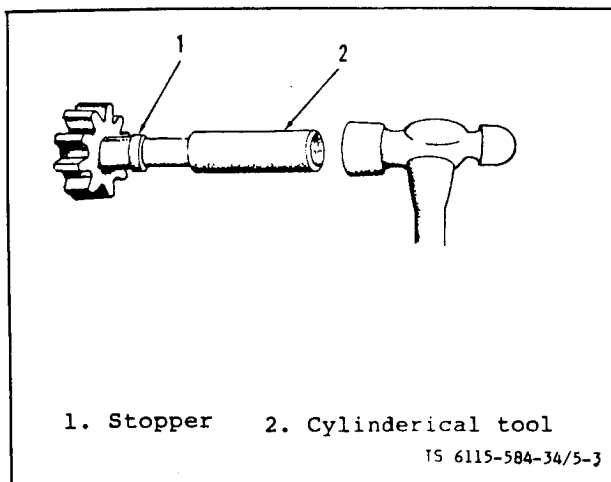

Figure 5-3. Pinion Gear Stopper Removal
(1) Remove nut (1) and lockwasher (2) from solenoid (13). Remove nut (3) and lockwasher (4) from brush assembly (21) terminal. Tag and remove lead (5). Remove nut (6) and lockwasher (7) from lower solenoid terminal, and loosen field coil connector (8).
(2) Remove cotter pin (9) and pin (10) from yoke (32). Remove screws (11), lockwashers (12) and remove solenoid switch (13).
(3) Remove through bolts (14), lockwasher (15) and remove back plate assembly (16) and thrust washer (27). Remove nut (17) and lockwasher (18) from brush assembly (21) terminal. Lift brush springs (20) and remove brush assembly (21). Remove the insulating washer set (19) from brush assembly (21). With brush spring raised, remove other brushes (26) from brush holder (24). Remove screws (22), lockwashers (23) and remove brush holder (24).
(4) Remove retainer (29), boot (30), pin (31) and separate pinion housing (28) and frame assembly (25). Do not lose thrust washer (27).
(5) Remove yoke (32) and remove armature (33) and drive assembly (35). Remove lock ring and stop (34) by forcing stop toward armature until lock ring becomes accessible. See figure 5-3. Remove lock ring and stop (34), and drive assembly (35) from armature (33). Do not disassemble drive assembly.
(6) Remove bearing (36) by pressing from pinion housing (28).
(10) Remove lever (30) and gear (31).
(11) Push stopper (33) towards front bracket to release retaining ring (32). See figure 5-3. Remove retaining ring (32), stopper (33), pinion gear (34) and spring (35).
(12) Remove over running clutch (36) from the front bracket assembly (37).